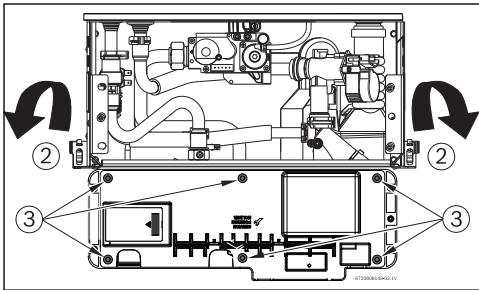

Fig. 5 Control unit rear
- ▶ Turn control unit to expose the rear (Fig. 5, pos. 2).
- ▶ Locate and remove 6 Phillips head screws on back of control unit (Fig. 5, pos. 3).